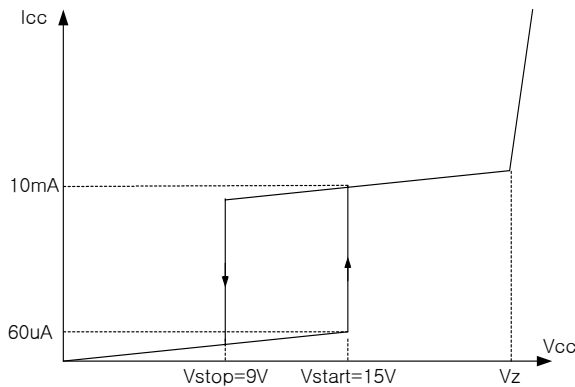

Figure 1. Relation between supply current and voltage
1. Startup : To guarantee stable operation of the control IC, V_{cc} has under voltage lockout (UVLO) with 6V hysteresis. Figure 1 shows the relation between the supply current (I_{cc}) and the supply voltage (V_{cc}). Before V_{cc} reaches 15V, the start-up current is 60 μ A, which is usually provided by the DC link through start-up resistor. When V_{cc} reaches 15V, the control IC begins operation and the operating current increases to 10mA as shown. Once the control IC starts operation, it continues its normal operation unless V_{cc} goes below the stop voltage of 9V.